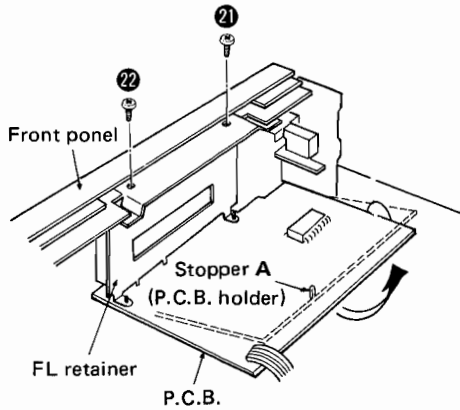

Fig. 7
2. Remove screws 21 and 22 as in Fig. 7.
4. Remove P.C.B. together with FL from the chassis in the direction of the arrow in Fig. 7.